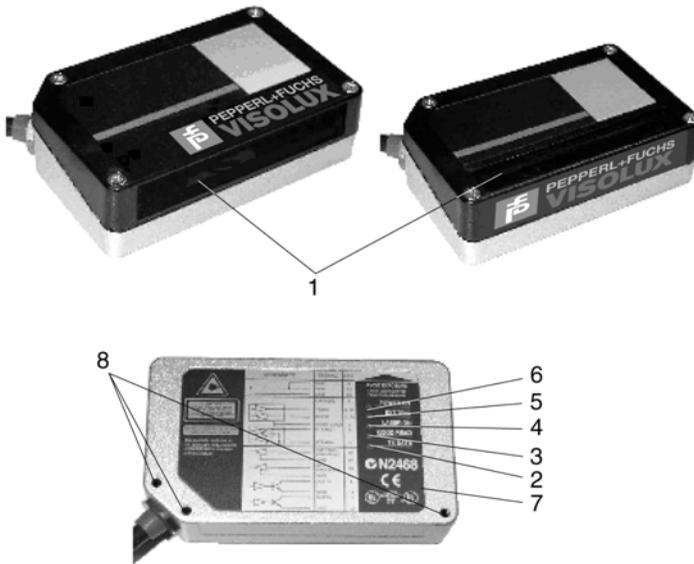

Figure 4.1 Scanner VB12 - General view
The laser light is visible to the human eye and is emitted from the window on the front of the scanner (see section 4.2, figure 4.1, pos. 1).
The laser beam output window is on the side of the scanner in VB12-□□□ models and on the upper part of the scanner in VB12-□□□-S models, (figure 4.1, pos. 1). A security system allows the laser to activate only once the motor has reached the correct rotational speed; consequently, the laser beam is generated after a slight delay from the power on of the scanner.
POWER ON	(red) indicates the reader is connected to the power supply (see figure 4.1, pos. 6)
GOOD READ	(red) is used to signal the possibility of a successful barcode reading (see figure 4.1, pos. 3)
EXT. TRIG.	(yellow) indicates external trigger activity (see figure 4.1, pos. 5)
TX DATA	(green). When blinking, it indicates data transmission (see figure 4.1, pos. 2)
LASER ON	(green) indicates laser ON state (see figure 4.1, pos. 4)
The screw holes on the body of the reader are for mechanical fixture (see figure 4.1, pos. 8).